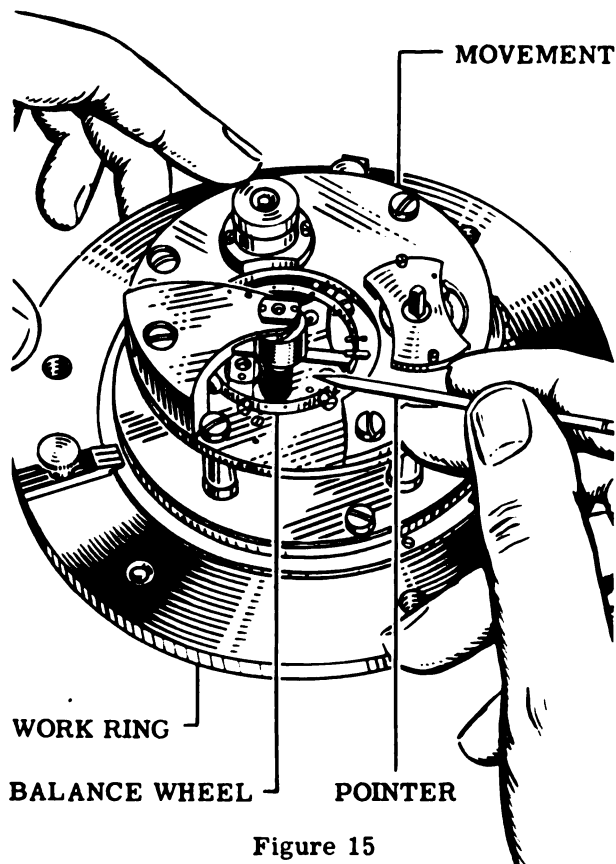

Figure 15
4. If running, stop the balance. See Fig. 15. Use only non-metallic pointer or dry, soft material. See Tool No. 87.
6. Oscillate the balance with Tool No. 87, or with pegwood or brush to allow the escapement to function until the train is stopped by the blocking screw bearing against one of the arms of the fourth wheel (or by the wire loop). This operation, in illustration, appears similar to Operation 4. See Fig. 15.